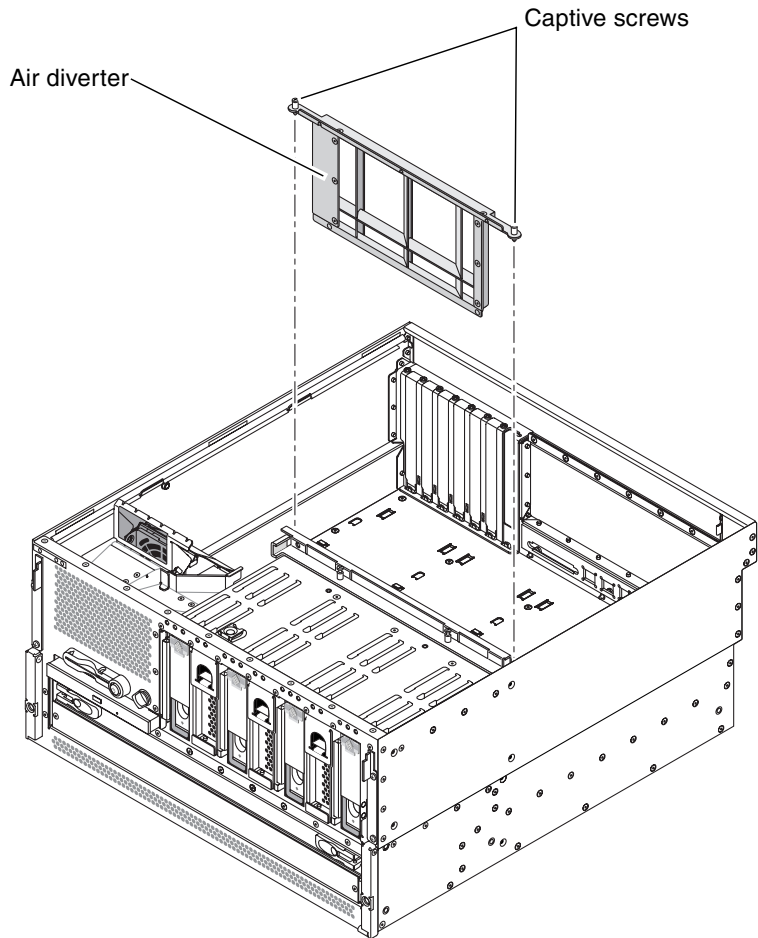

FIGURE 4-35 Removing the Air Diverter
9. Locate the air diverter (FIGURE 4-35).
10. Unscrew the two screws from the top of the air diverter and remove the air diverter from the system (FIGURE 4-35).